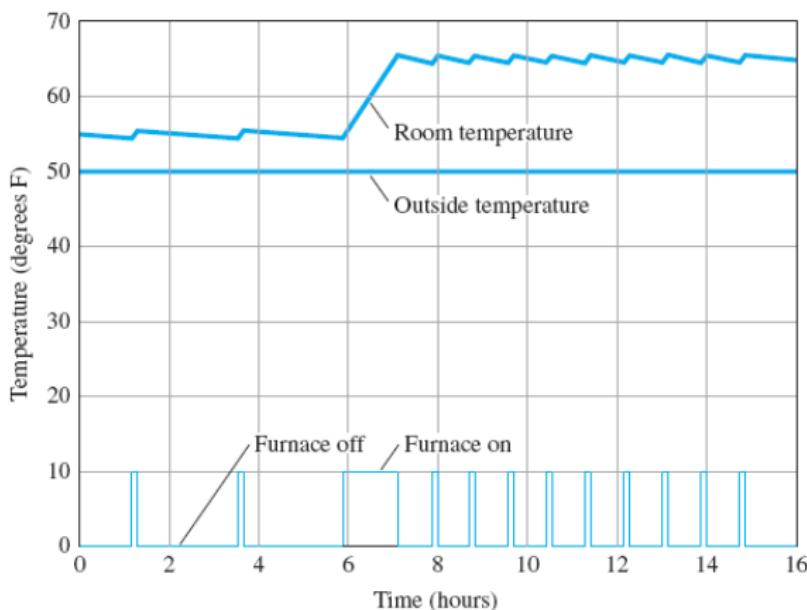

Figure 1.2 : Plot of room temperature and furnace action.
- ▶ Figure 1.2 shows the controlled room temperature using a simple on-off control strategy.